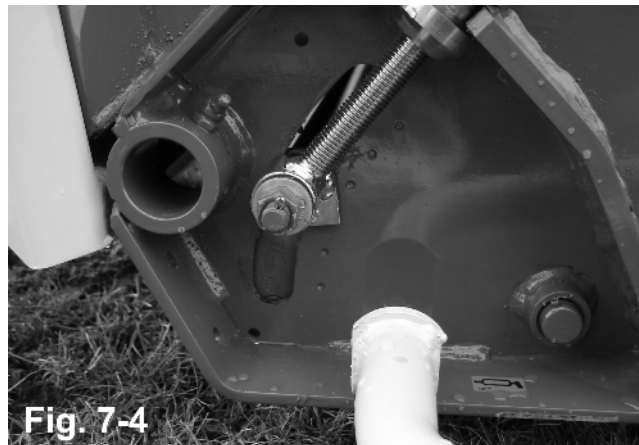

Fig. 7-2
- Løsne klemskruen (Fig. 7-2),
- Stram klemskruen (fig. 7-2)